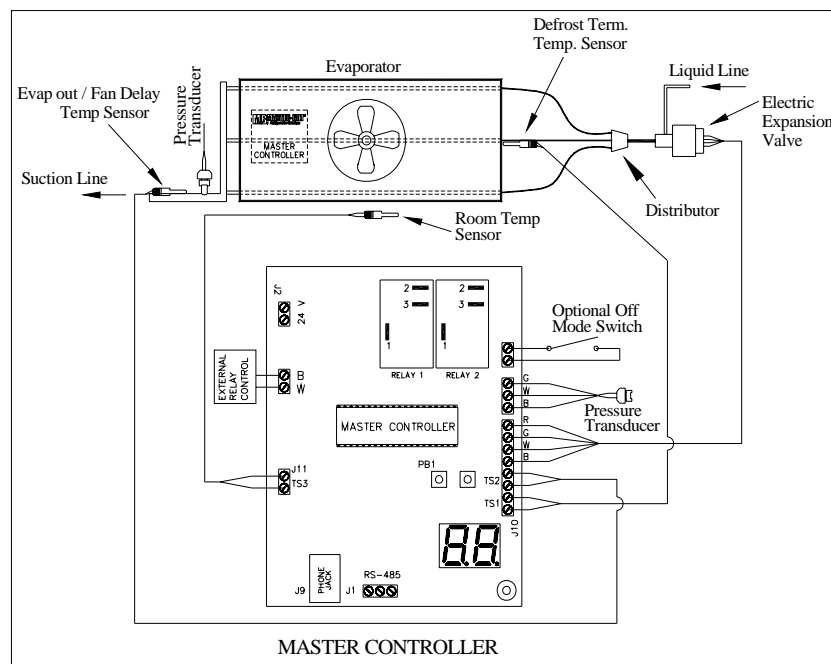

Figure 2.
- **Defrost Termination Temperature Sensor TS1** is mounted downstream of the distributor tube after the valve and close enough to the evaporator coil to measure defrost termination temperature during defrost cycle. **Figure 2** on the next page shows the sensor locations of the evaporator and the controller.